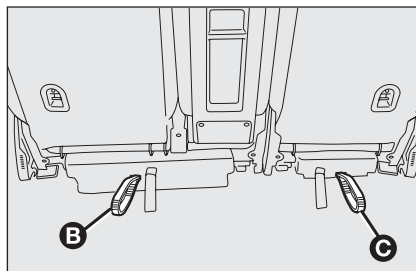

fig. 111
The rear seat is split. The rear seats can be moved forwards and backwards from the boot by means of the handles **B** or **C**-fig. 111; pull the handle and move the seats forward at the same time. This operation is useful for increasing the boot capacity.
- make sure that the seats are all back using the handles **B** or **C**-fig. 111;